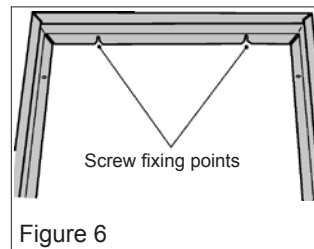

Figure 6
3. The top rear flange of the spacer frame has two fixing points—see figure 6. Drill the wall at the two fixing points.